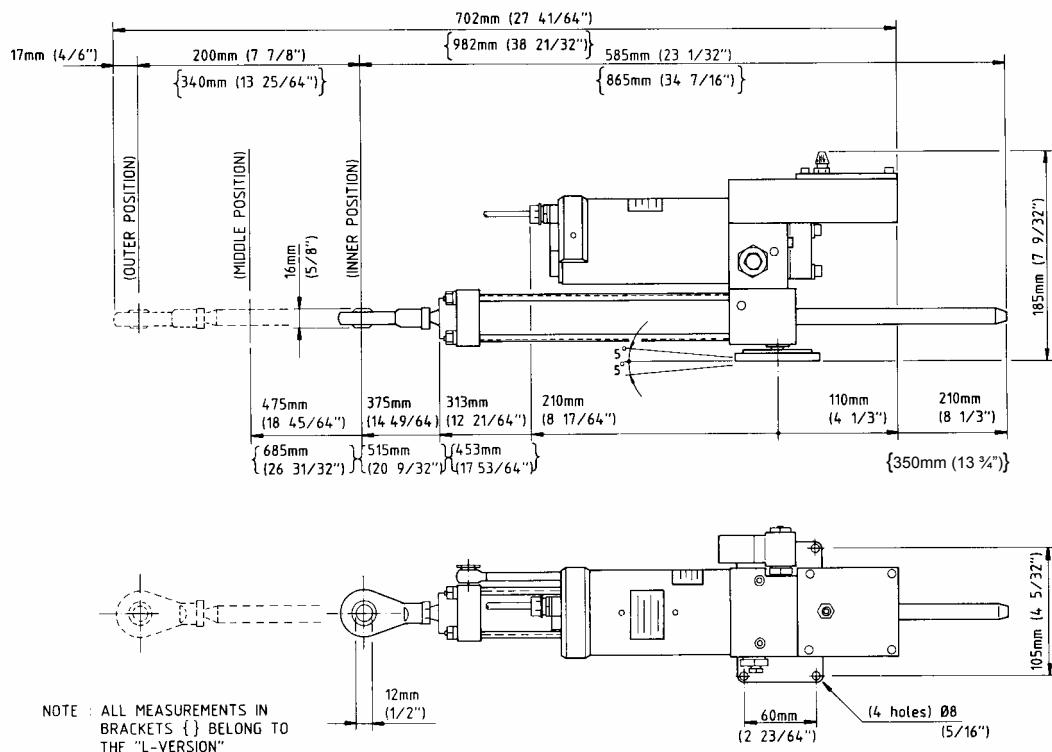

Figure 1 HLD dimensions (shown with Fracmo motor)
- Rev. B Added measurement on figure 1. Adjusted figure 5.
Dimensions: See fig. 1
Do never install the unit upside down! (The air valve should be facing upwards.) The HLD must be installed horizontally only. No more than ± 5 degrees tilt is allowed at any position, as illustrated on figure 1. The HLD should not act as an end stop for the rudder.
HLD må aldri monteres opp ned! (Lufteventil på tank skal peke oppover). Enheten må monteres horisontalt, og slik at avviket fra horizontalplanet aldri overstiger ±5 grader, slik som illustrert på fig. 1. HLD må ikke monteres slik at den fungerer som endestopp for roret.